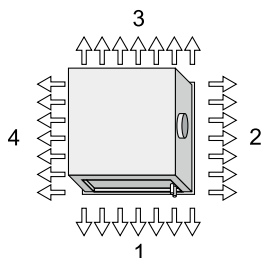

Figure 12. Top view, nozzle setting, ADAPT Parasol single-module unit, sides 1-4.
***) All four sides on the unit can be set individually. The designation of the nozzle setting follows the order according to Figure 12. See Figure 13 for example.